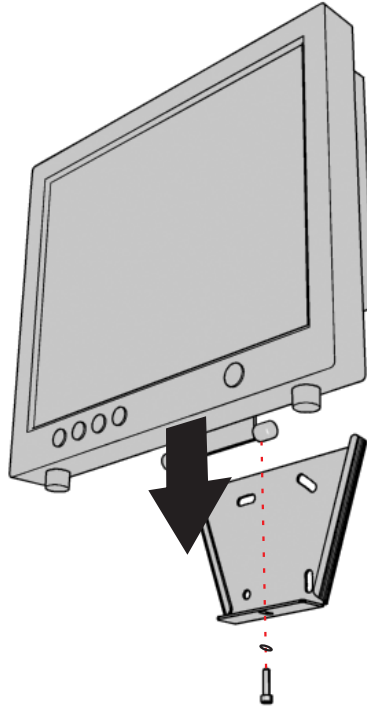

**Figure 2.** Attaching the Wall Bracket to Wood Stud Wall
- (1) Use a stud finder to locate and mark the edges of the wood stud that the mount will be attached to.
- (2) Center two of the wall bracket mounting holes vertically between the edges of the wood stud. Use the wall bracket as a template to mark the two mounting holes.
- (3) Attach the wall bracket to the wall and through the wood stud using two 1/4-inch diameter x 2-inch lag bolts as shown in Figure 2.
- (4) Finish mounting the wall bracket to the wall. Insert hardware suitable for the mounting surface through the remaining two wall bracket mounting holes. Refer to the following chart for recommended installation surfaces and minimal hardware requirements.